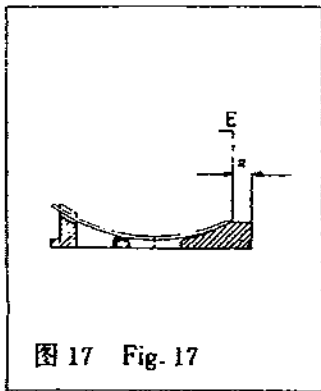

图 17 Fig. 17
(4) 机针摆幅 机针的摆幅决定了机针右极限的位置。要求机针运动到右极限时，针尖到针板右侧面的距离为 2 毫米左右(图 17)，此时针尖刚好微露出右导针槽的极限点“E”(图 17)。如果上述位置不正确，必须调整机针摆幅。
The right limit of needle depends on the limit of the needle throw. When the needle reaches the right limit, the needle point shall be in about 2mm distance from the right side of the needle plate (Fig. 17). At this moment, the needle point is right put out of the limit point "E" of the right needle guide groove(Fig. 17). If the positioning of location is incorrect, the limit of the needle throw shall be regulated.